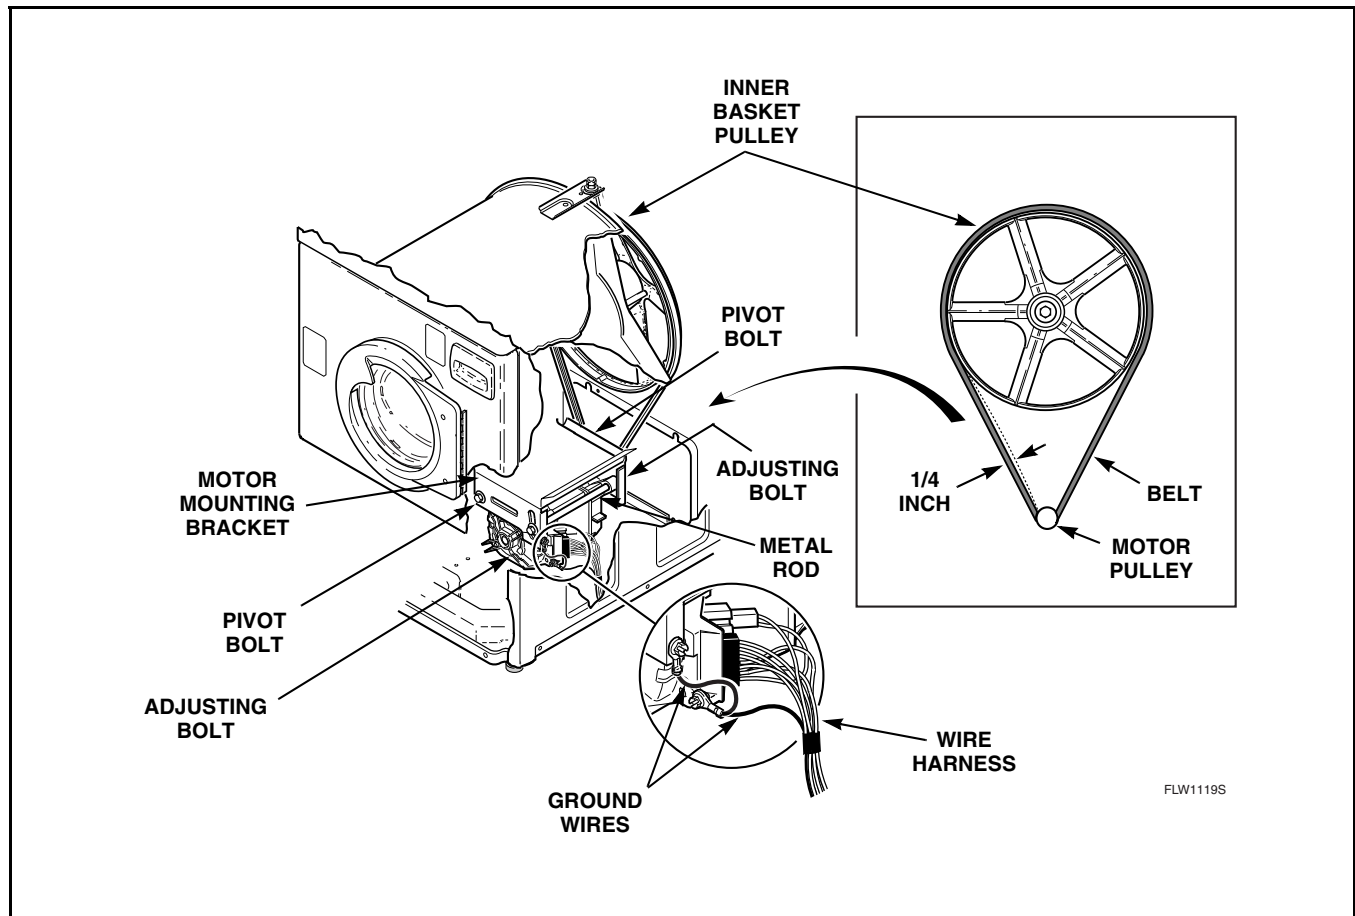

Figure 77
- Working through the lower front access door opening, place a locking pliers on the metal rod and loosen the two adjusting bolts. Refer to *Figure 77*. Repeat procedure to loosen the two pivot bolts. Refer to *Figure 77*.
- Pull down on motor to increase belt tension. Use a Burroughs belt gauge to obtain proper tension. Proper belt tension is obtained when belt can be deflected approximately 1/4 inch (6.35 mm) from normal position when moderate pressure 50 to 60 pounds (22.68 to 27.22 Kg) is applied to a point midway between pulleys. Refer to *Figure 77*.
- After proper belt tension has been obtained, tighten belt adjusting bolts firmly, then tighten pivot bolts. Refer to *Figure 77*.